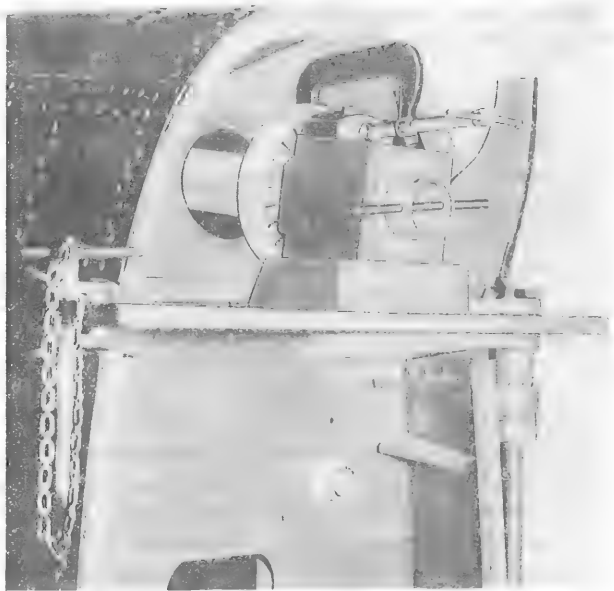

Figure 4-17. Using Alignment Fixture on Input Coupling
- o. Install input coupling alignment fixture, part No. S1670-10608, between upper pylon hinge points. (See figure 4-17.)